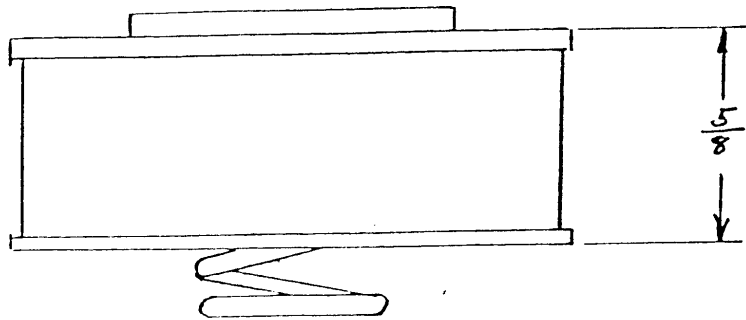

Fig. 3²
1. Measure thickness of the hoist bumper. If measurement is less than that shown in Fig. 3, replace bumper.